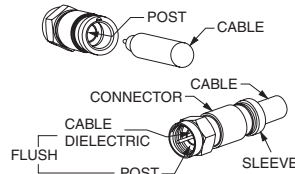

FIGURE 4
1. Insert prepared cable end into the connector through the plastic sleeve. Ensure that the center conductor of the cable and foil covered dielectric are properly aligned with the connector post. Push cable end into connector until the cable dielectric is flush with the end of the post. (see Fig. 4)